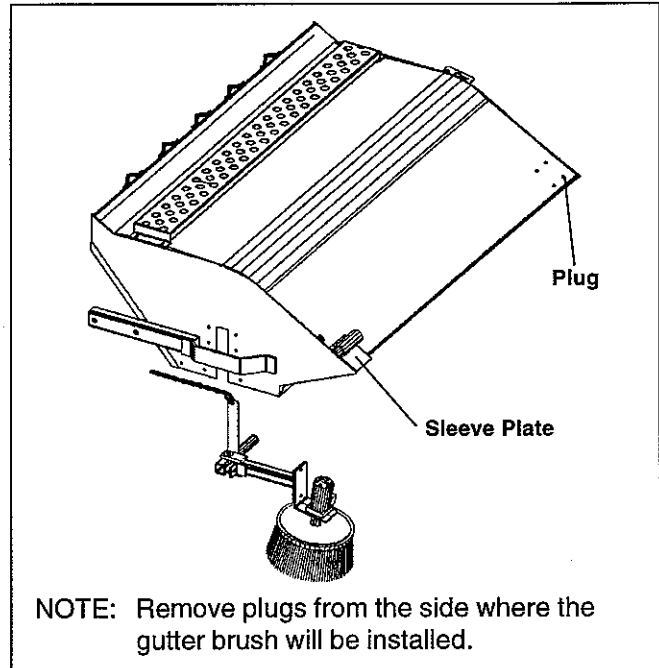

figure 21
1. On 1 side, remove 4 plugs (figure 21) from holes in the sweeper hood.
2. Attach a sleeve plate (figure 21) to the sweeper hood where plugs were just removed. Use 4 screws, washers, lock washers and nuts.